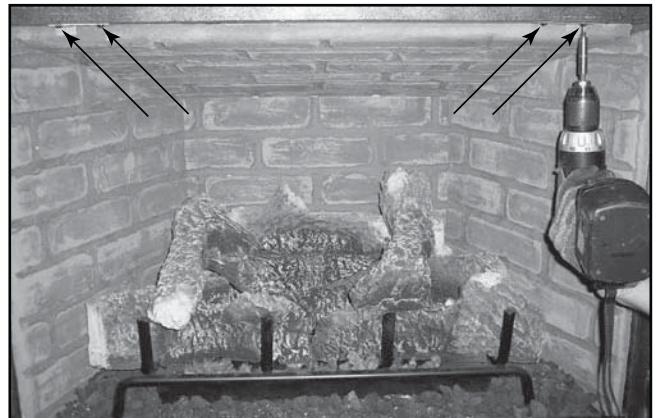

Figure 7.19 Remove Refractory Retainers
- Remove the four screws holding the refractory retainers in place. See Figure 7.19.